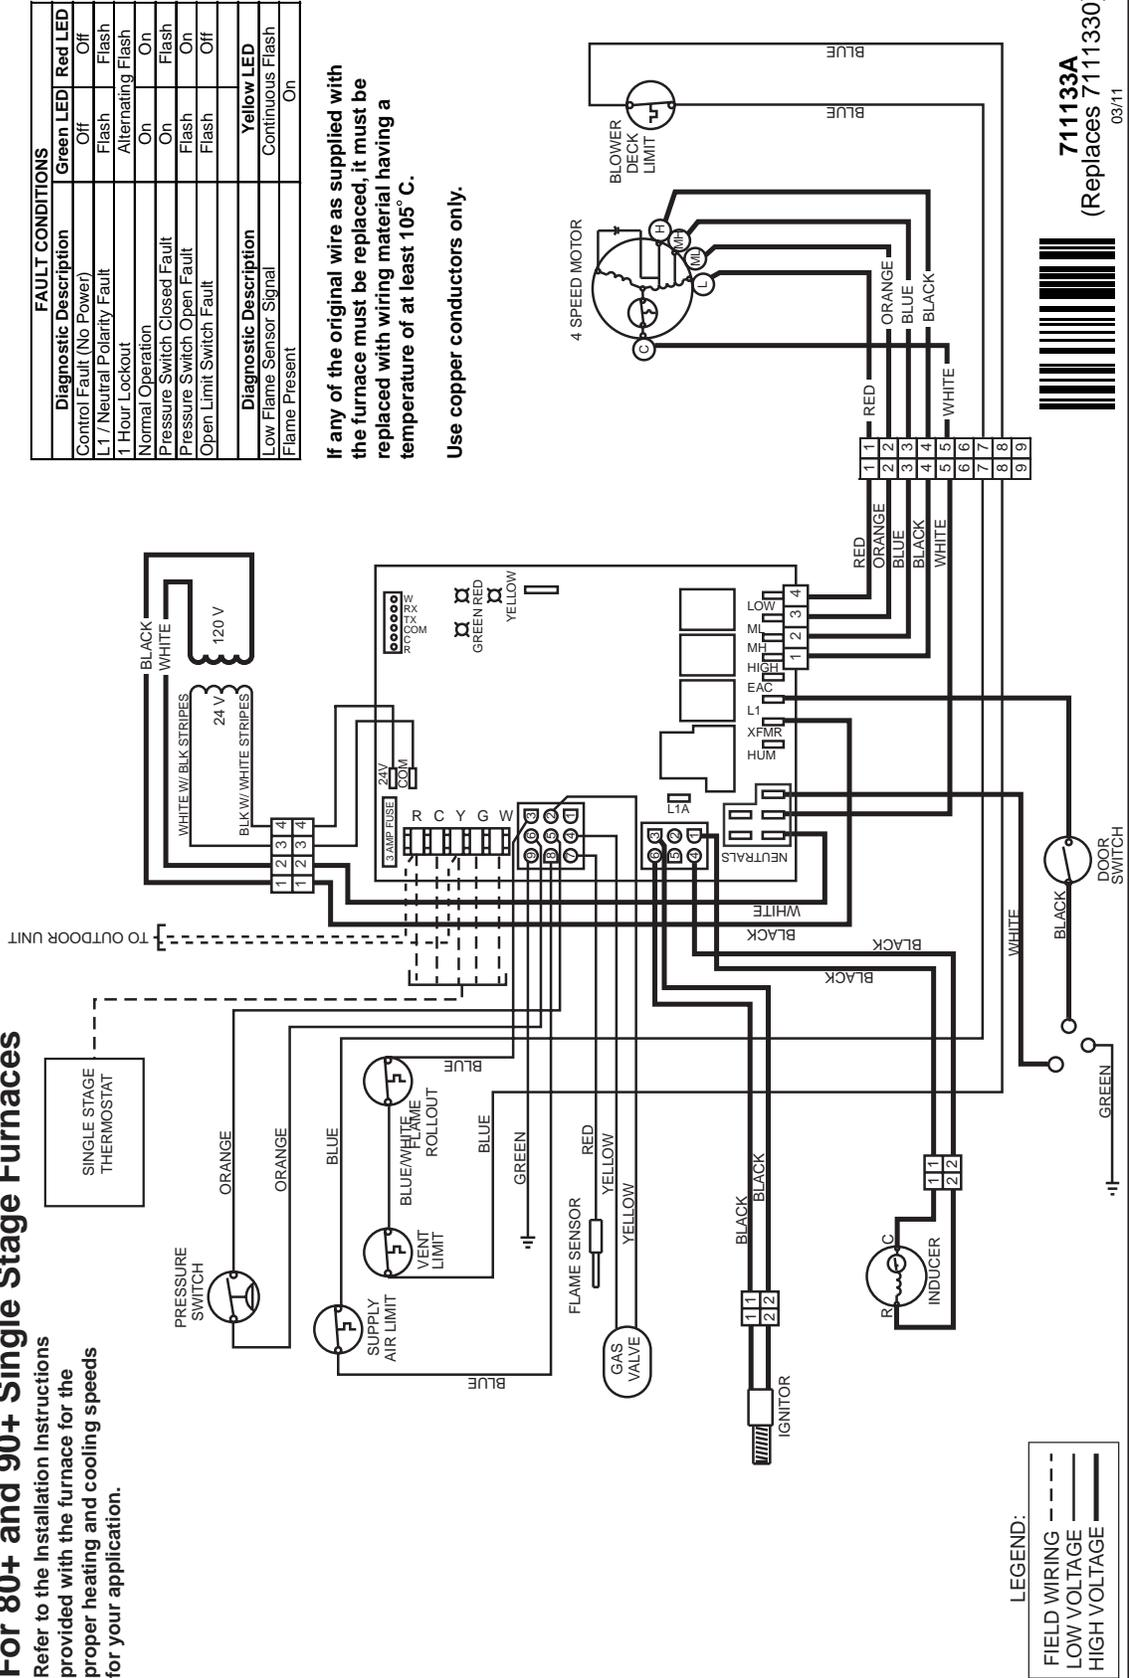

Figure 27. M7RL Wiring Diagram
- Are all the LED's on the furnace control board constantly ON? If not, refer to Table 7 or the wiring diagram (Figure 27, page 33) to determine fault condition.